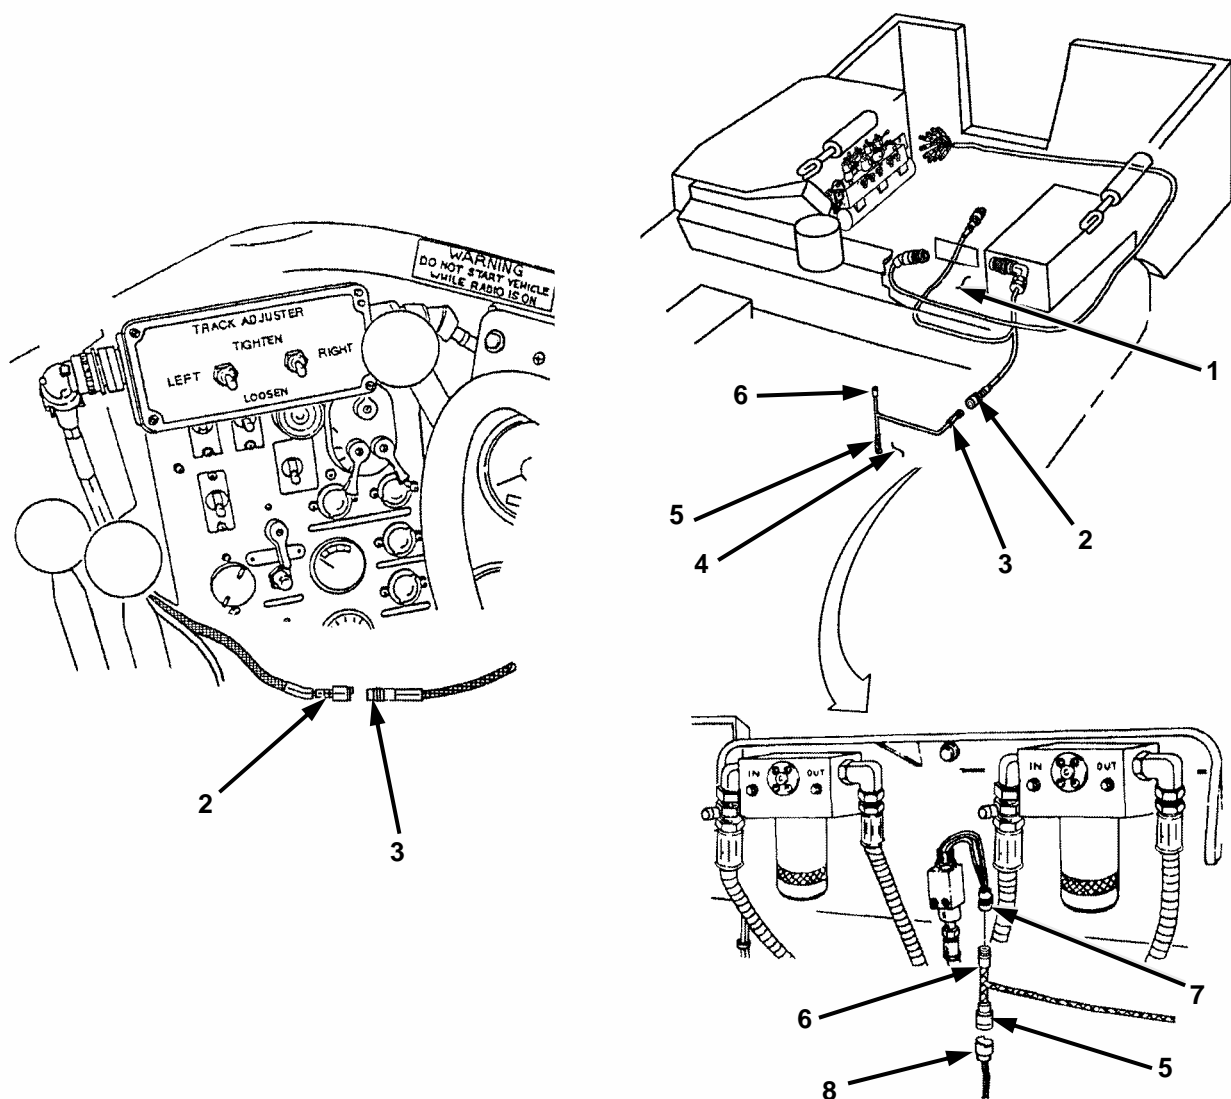

Figure 2-2. Track Adjuster SPRUNG/UNSPRUNG Switch Tap Wiring Harness.
- d. Set aside track adjuster main wiring harness (2) for disposition per Chapter 1, Section 1-8, step c.
- b. Remove SPRUNG/UNSPRUNG switch tap wiring harness connector (Figure 2-2, 3) from track control wiring harness connector (2).